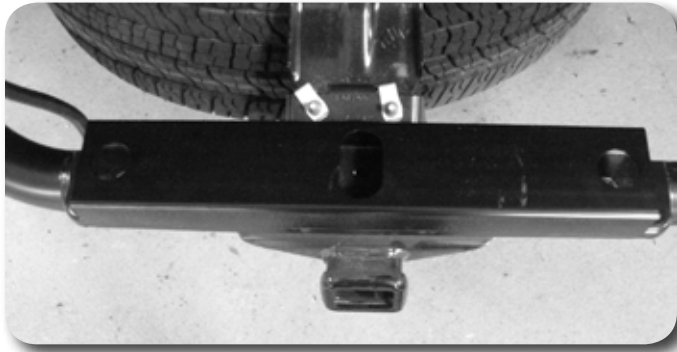

Figure 13
39. Place the provided step spacer above the factory hitch. The slots cut in the tube face up and towards the front of the vehicle. See Figure 13